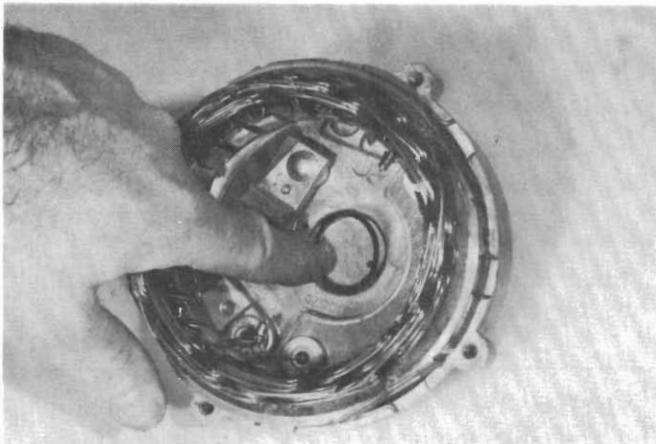

Fig. 20 - Installing the "O" Ring
(4) The slip-ring end bearing is a push fit on the rotor shaft and will be retained on the rotor as it is withdrawn from the end-head. The outer race of this bearing is prevented from rotating in the end-head by use of an 'O' ring. This rubber 'O' ring should be replaced every time the alternator is disassembled (refer Fig 20).